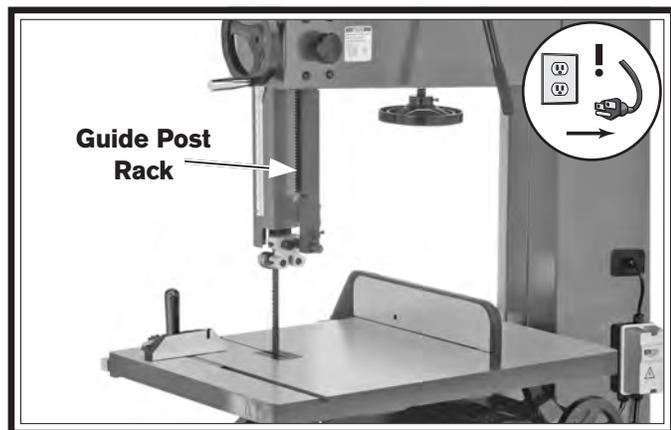

Figure 83. Guide post rack exposed for lubrication.
3. Use a rag and mineral spirits to wipe off any grease and sawdust build-up on rack (see Figure 83).